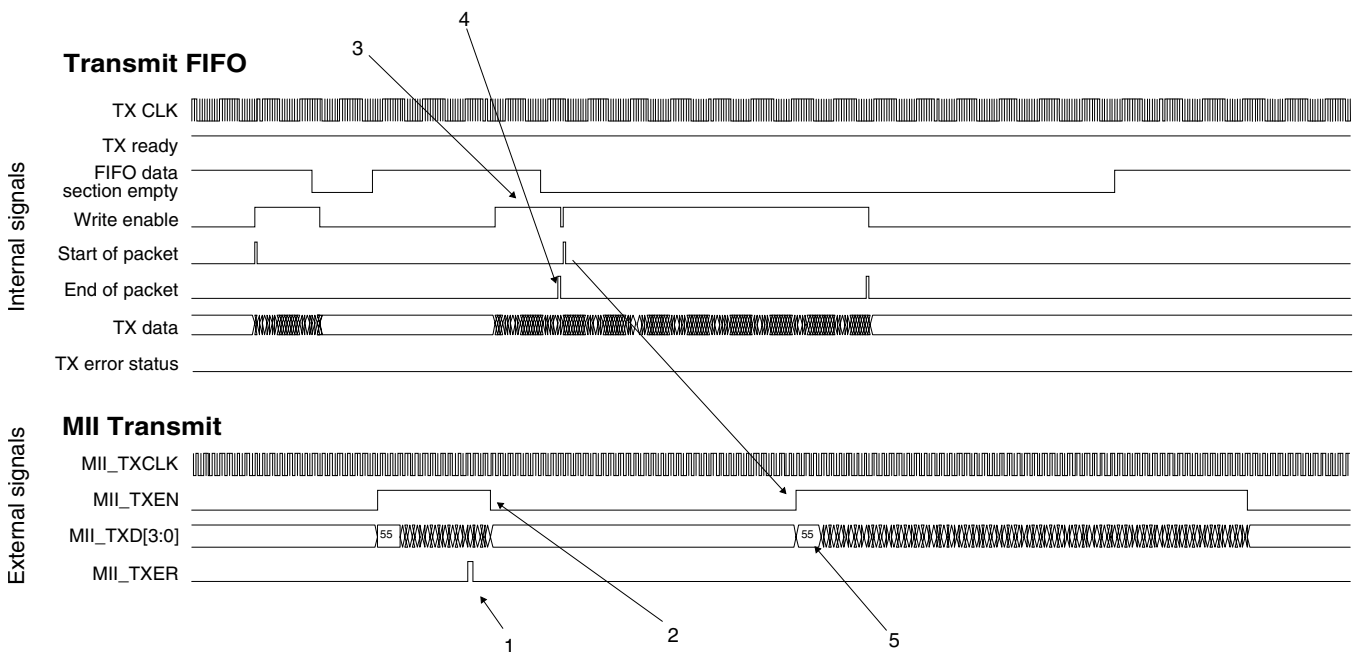

Figure 44-66. Transmit FIFO underflow protection
- Asserts the MII error signal (MII_TXER) (1 in Figure 44-66) to indicate that the fragment already transferred is not valid
- Deasserts the MII transmit enable signal (MII_TXEN) to terminate the frame transfer (2)